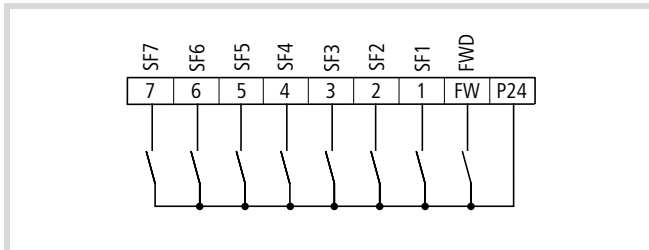

Figure 57: Digital inputs 1 to 7 configured as SF1 to SF7 (bitwise fixed frequency selection).
- To select a fixed frequency stage, activate the digital input as listed in Figure 57.
The entered value is saved in the parameter which you have selected with the digital input. If you have wired the inputs as shown in Figure 57, the value is saved under PNU A021 when digital input 1 is activated.